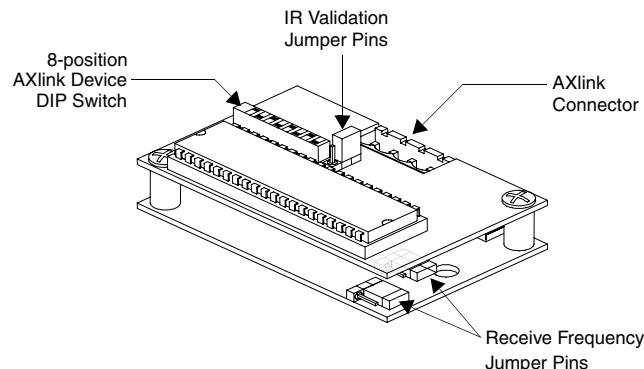

FIG. 2 Location of key components on the AXD-IR+ circuit board
Set the receive frequency, AXlink device number and IR validation level before installing the AXD-IR+. FIG. 2 illustrates the location of key components on the AXD-IR+ circuit board.
1. Locate the 8-position Device DIP switch (FIG. 2).
1. Locate the IR jumper pins (J1) (FIG. 5) on the circuit board (FIG. 2).